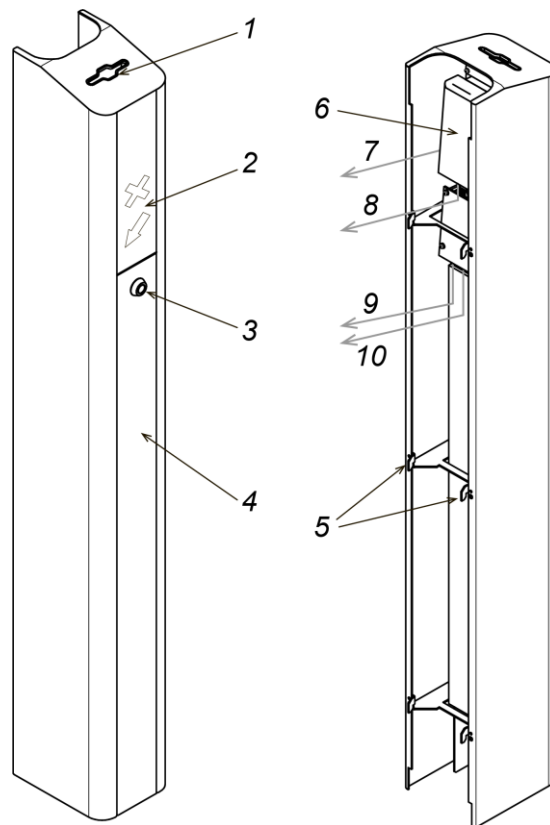

Figure 3. FP-01C Front panel
FP-01C panel arrangement is shown in the Fig. 3. Then the position numbers are arranged according to the Fig. 3.
1. Unpack the panel. Install the built-in reader inside the panel, if needed. The installation location is shown in the Fig. 3. To install the reader, use the double-sided tape.